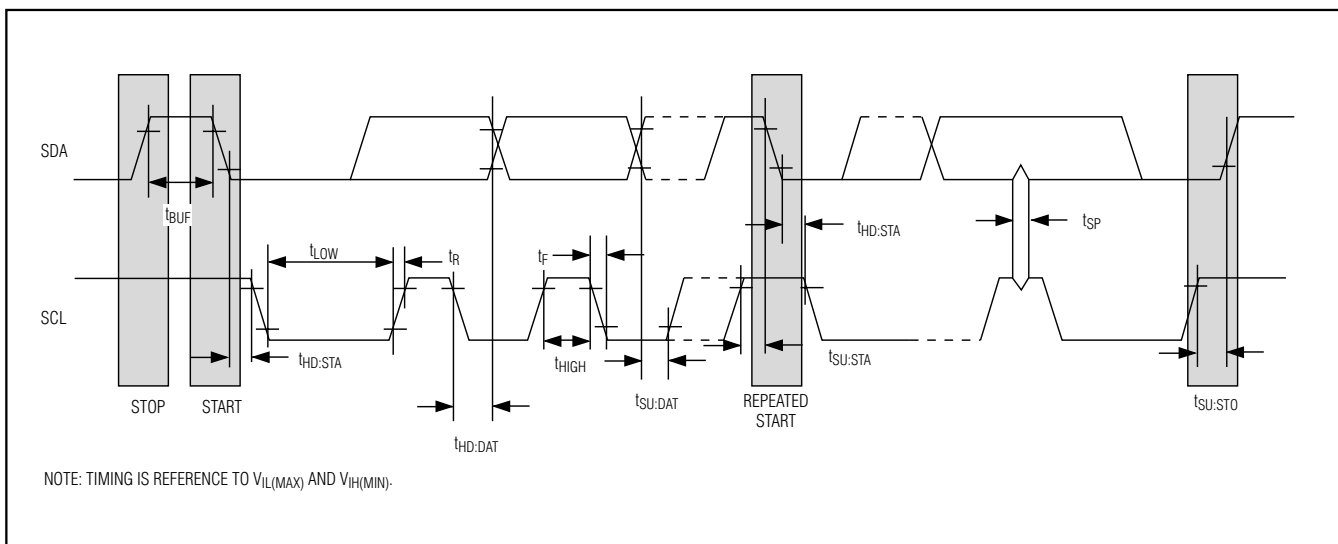

Figure 1. I2C Timing Diagram
**Bit Write:** Transitions of SDA must occur during the low state of SCL. The data on SDA must remain valid and unchanged during the entire high pulse of SCL plus the setup and hold-time requirements (see Figure 1). Data is shifted into the device during the rising edge of the SCL.
**Bit Read:** At the end of a write operation, the master must release the SDA bus line for the proper amount of setup time (see Figure 1) before the next rising edge of SCL during a bit read. The device shifts out each bit of data on SDA at the falling edge of the previous SCL pulse and the data bit is valid at the rising edge of the current SCL pulse. Remember that the master generates all SCL clock pulses including when it is reading bits from the slave.
**Acknowledgement (ACK and NACK):** An Acknowledgement (ACK) or Not Acknowledge (NACK) is always the 9th bit transmitted during a byte transfer. The device receiving data (the master during a read or the slave during a write operation) performs an ACK by transmitting a zero during the 9th bit. A device performs a NACK by transmitting a one during the 9th bit. Timing (Figure 1) for the ACK and NACK is identical to all other bit writes. An ACK is the acknowledgment that the device is properly receiving data. A NACK is used to terminate a read sequence or as an indication that the device is not receiving data.